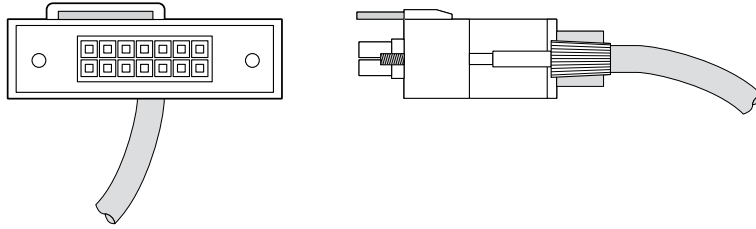

Figure 318: EPS-C2 2x7 Pin Redundant Power Cable with Connector Key Tab
- **Five 2x7-pin connectors**, shown in Figure 318, which connect the power supply to X440 switches.